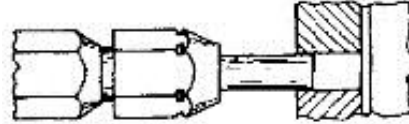

Figure 6
5. Hold gage in straight alignment with the tool and carefully try to insert, without forcing, the GO element, and then the NO-GO element. See Figure 6.